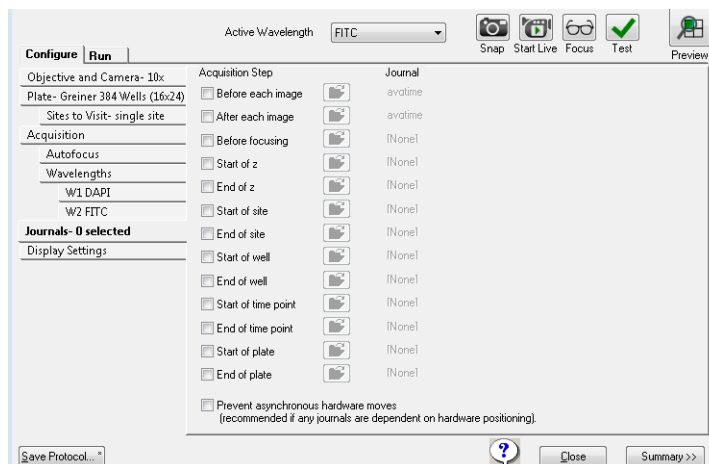

Figure 5-26: Plate Acquisition Setup dialog, Configure tab, Journals tab
3. Open the **Journals** tab. See Figure 5-26 on page 128.